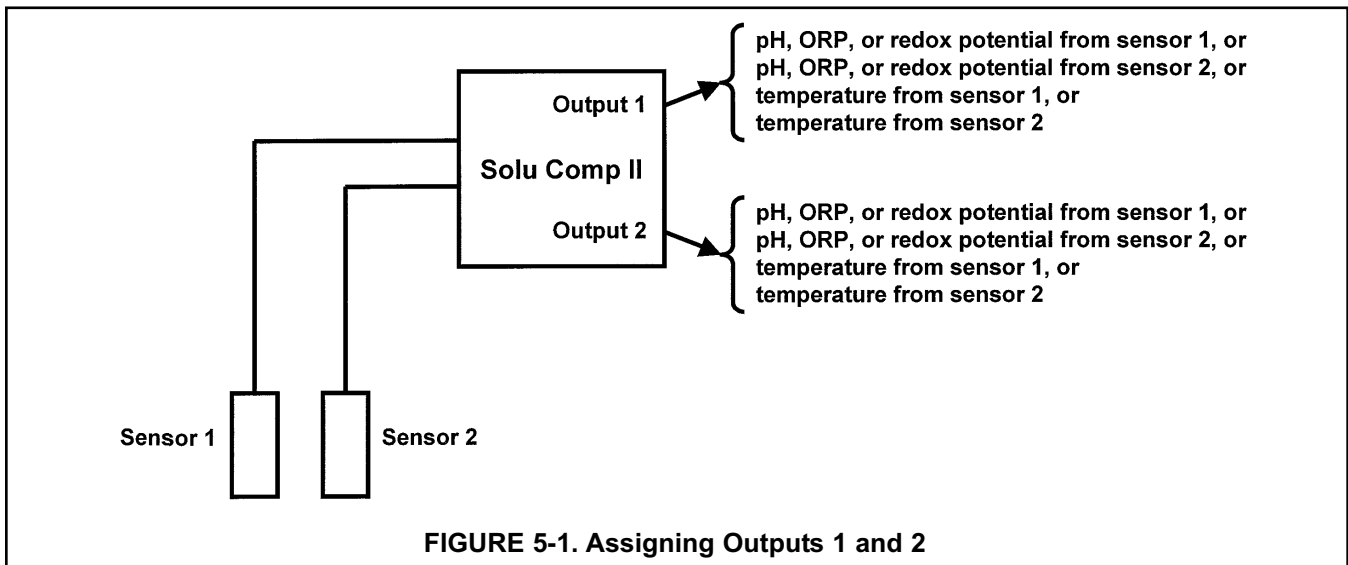

FIGURE 5-1. Assigning Outputs 1 and 2
2. ASSIGNING OUTPUTS. Figure 5-1 shows the ways in which the outputs can be assigned.